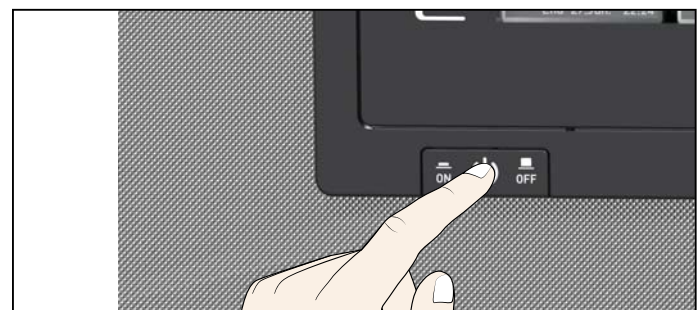

Fig. 25 Switching off the appliance
5. Switch off the appliance with the main switch (Fig. 25).